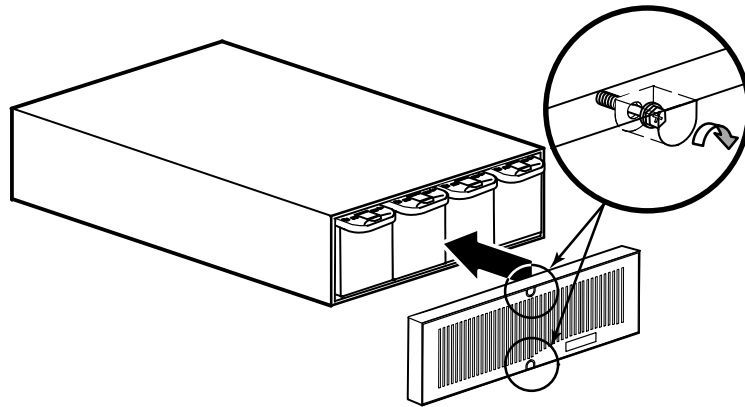

Figure 16. Replacing the EBM Front Cover
6. Replace the EBM front cover (see Figure 16) and tighten the two front cover screws.